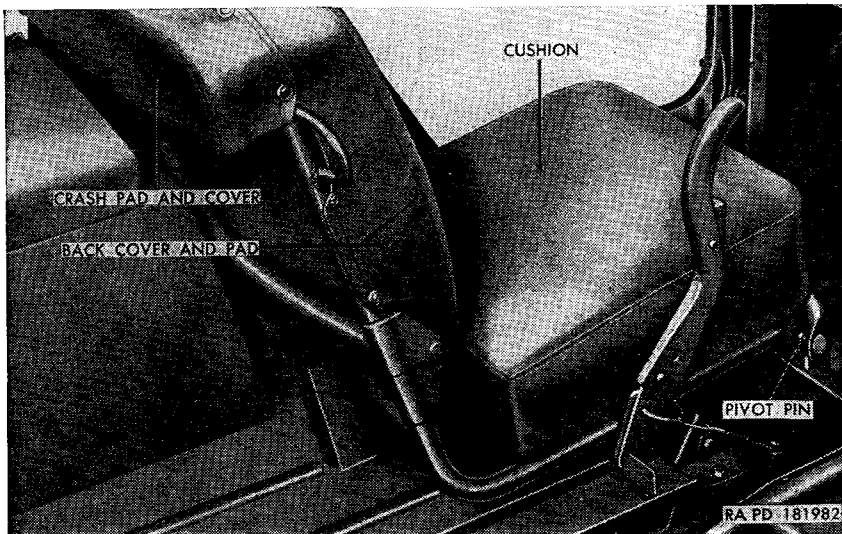

Figure 201. Driver's seat—installed
a. *Driver's seat* (fig. 201).
- (1) *Removal.* Tilt the driver's seat forward and align the flat sides of the pivot pins, mounted in the seat legs, with the flat faces of the seat hinge pivots on the floor pan. Lift the seat until the pins are free of the pivots, and remove seat from vehicle.
- (2) *Installation.* Position the driver's seat in an upright position within the driver's compartment. Aline the flat sides of the pivot pins with the flat faces of the seat hinge pivots, and insert the pins into the pivots. Tilt the seat rearward until the frame rests on the floor pan.